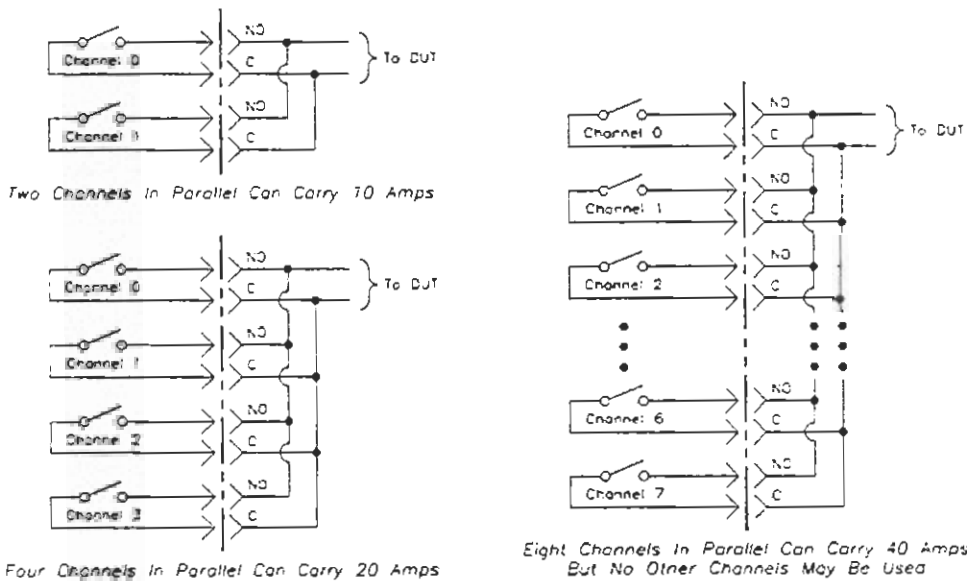

Figure 1-4. Combining HP Z2468A Channels to Increase Current Capacity
The HP Z2468A is designed to carry 5 ADC continuous on up to eight (8) channels (module total = 40 Amps). Multiple channels wired in parallel can be used for different current carrying requirements. For example, two channels wired in parallel can carry a total of 10 Amps, three channels wired in parallel can carry 15 Amps, four channels can carry 20 Amps, and so on up to eight channels which can carry 40 Amps. In this parallel configuration each channel carries the same amount of current. Refer to Figure 1-4.